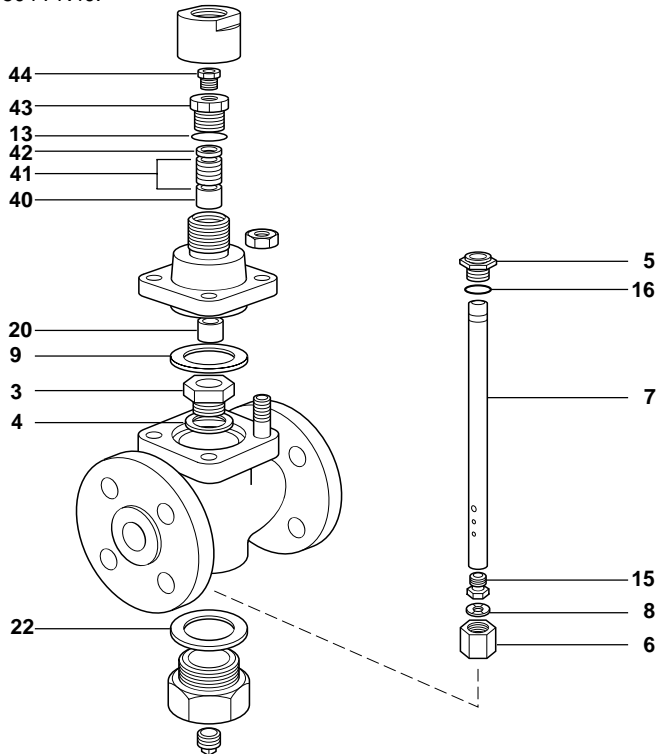

Fig. 9
- Remove and discard the existing stuffing box, PTFE chevron seals, guide bush, and spring (see inset in Fig. 9).
- Fit the bottom support ring (40, see Fig. 9) over the valve stem and locate in the valve bonnet with its small diameter downwards.
- Fit the stuffing box gasket (13) to the stuffing box (43), and pass the stuffing box assembly over the valve stem (7).
- Ensure the gland nut (44) is finger tight against the top support ring (42), then move the valve stem up and down over its full travel five or six times to bed in the packing rings.
- Fit the top support ring (42), chamfer first, into the stuffing box (43). (See Fig. 9).
- Fit the five packing rings (41) into the stuffing box from below, so the thread in the top of the stuffing box cannot damage the rings. Ensure that the splits in the packing rings are staggered.
**Tip:-** Use the bottom support ring (40) as a temporary tool to push the packing rings into place.
- Fit the bottom ring support over the valve stem (7) and locate in the valve bonnet with its small diameter downwards.
- Fit the gland nut (44), and tighten finger-tight only at this stage.
- Fit the stuffing box gasket (13) to the stuffing box, and pass the stuffing box assembly over the valve stem.